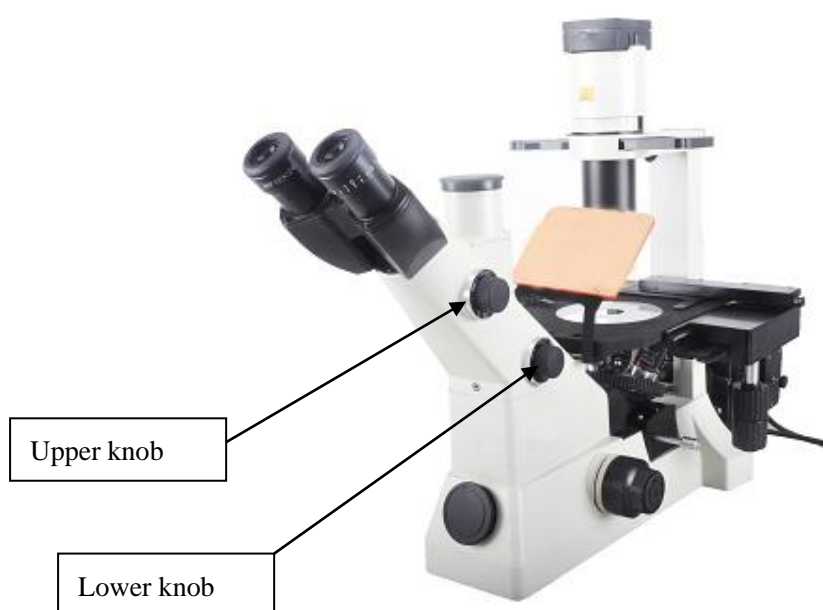

Fig.30
- ⦿ Revolve two knobs in fig.30 respectively to select the light path you need.